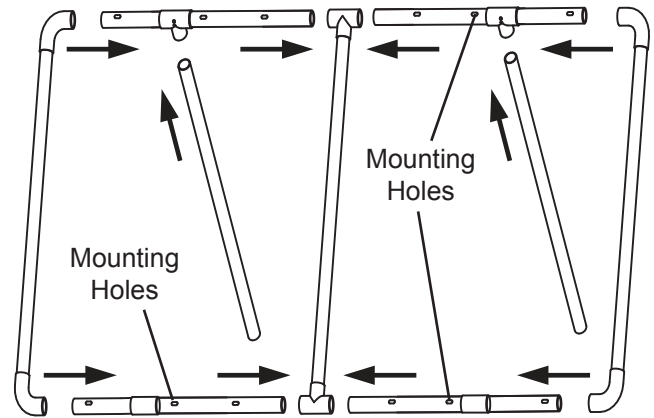

Figure 1
1. First, attach all the components of the frame together. See Figure 1, below.
**IMPORTANT:** During assembly, make sure that the solar panel mounting holes along the Top Tubes (2) and Bottom Tubes (8) face OUT from the frame assembly. See Figure 1, above.